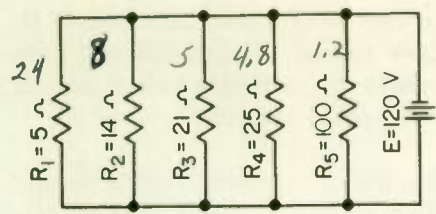

Fig. 29
4. Figure 29 shows five resistors connected in parallel. Use the general formula for resistors in parallel to find the combined resistance of the parallel combination of resistors: